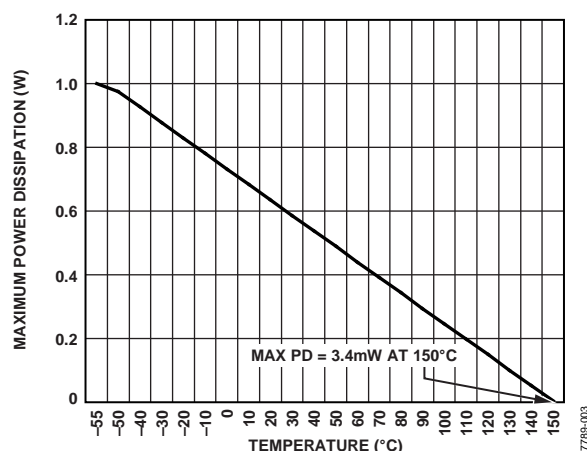

Figure 4. SOIC\_N Maximum Power Dissipation vs. Temperature
1 Values relate to package being used on a standard 2-layer PCB. This gives a worst-case θJA and θJC. See Figure 4 for a plot of maximum power dissipation vs. ambient temperature (TA).